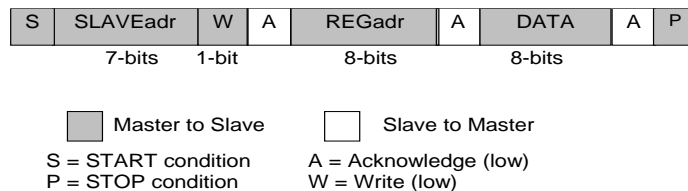
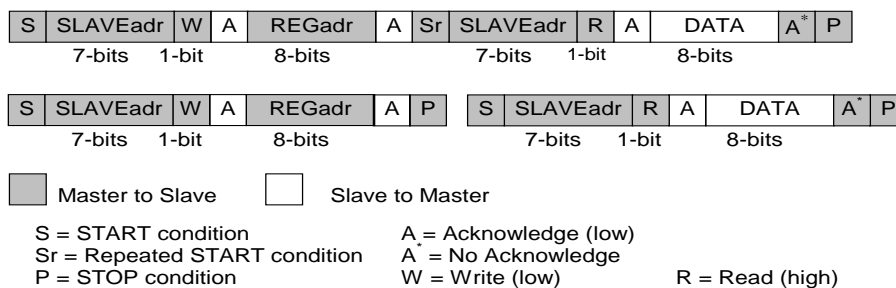

Figure 17: I²C Byte Write (SDA Line)
Figure 18: I²C Byte Read (SDA Line) Examples
The I²C bus is monitored for a valid slave address whenever the interface is enabled. It responds immediately when it receives its own slave address. The acknowledge is done by pulling the SDA line low during the following clock cycle (white blocks marked with A in Figure 17 and Figure 18).
The protocol for a register write from master to slave consists of a START condition, a slave address with read/write bit, and the eight-bit register address followed by eight bits of data, terminated by a STOP condition. DA9132-A responds to all bytes with acknowledge (A), see Figure 17.
When the host reads data from a register it first has to write to DA9132-A with the target register address and then read from DA9132-A with a repeated START, or alternatively a second START, condition. After receiving the data, the host sends no acknowledge (A*) and terminates the transmission with a STOP condition, see Figure 18.